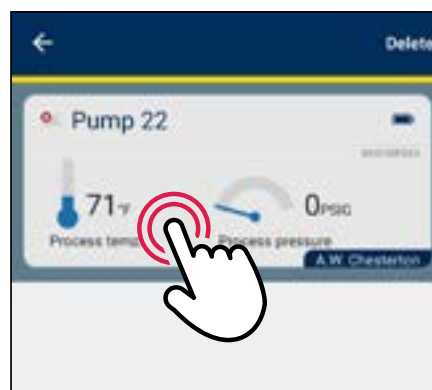

Figure 45
- For **Android**: **press and hold** the desired sensor (see figure 45). The identify/clear alarm option will appear.